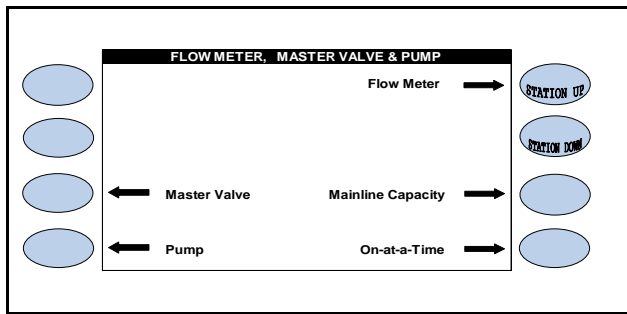

Figure 4.1
The FLOW METER, MASTER VALVE & PUMP screen is displayed (Figure 4.1).
From the FLOW METER, MASTER VALVE & PUMP screen (Figure 4.1).
1.  Press the **BACK** key twice to return to the FLOW METER, MASTER VALVE, & PUMP screen (Figure 4.1).
From the FLOW METER, MASTER VALVE & PUMP SETUP screen (Figure 4.1).
2. Press the **BACK** key to return to the FLOW METER, MASTER VALVE, & PUMP SETUP screen (shown Figure 4.1).